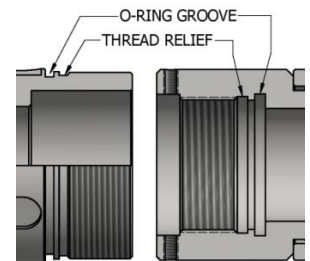

Fig. 2
**CAUTION:** To ensure tool operates properly, install o-rings in o-ring grooves NOT thread relief (Fig. 2).